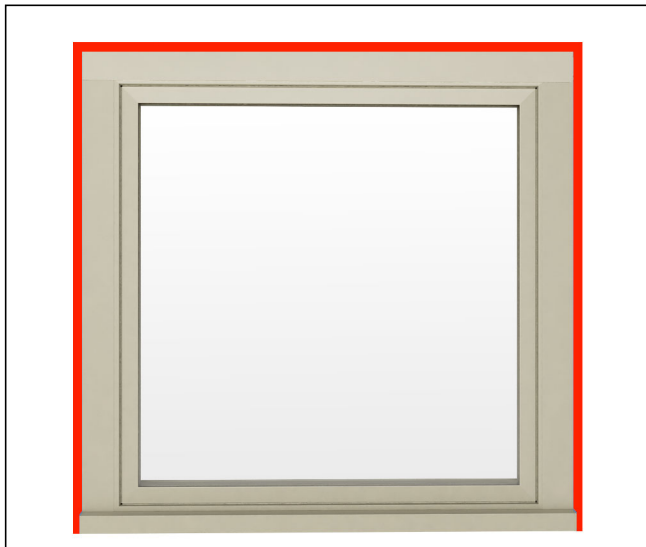

Figure 41
6. Seal casing with clear grade NS class 25 sealant at each jamb and the head jamb to siding or weather resistant barrier. (If required, backer rod may be used.) See figure 41.